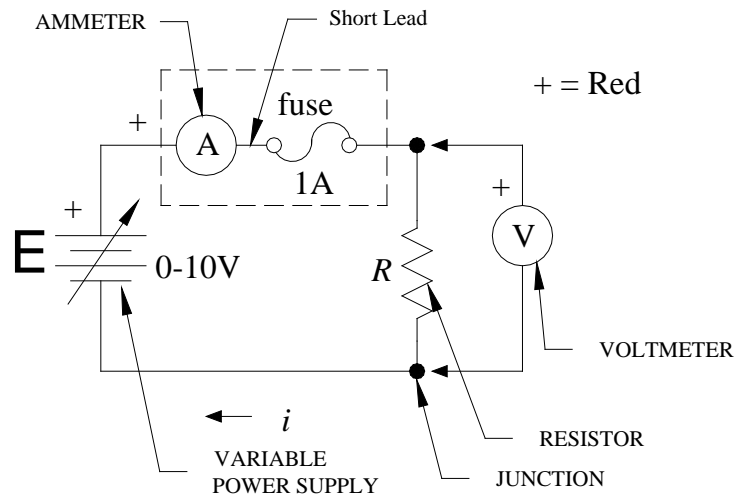

Figure 2 Schematic of the circuit used to measure resistance with symbols defined.
3) Figure 2 is a schematic diagram of the electrical circuit you will be measuring in this part of the lab. Each part of the circuit has a schematic symbol associated with it. Figure 2 has the symbols labeled. Study the figure and try to learn the names of the symbols. To make it easier to wire the circuit, first layout the components, power supply, ammeter, fuse, and resistor on the table just as they are drawn in the schematic. The voltmeter is an external test device so it should be the last element to be connected to the circuit. (This is different than an ammeter which is included in the circuit.) When wiring your circuit, start at the plus (+) side of the power supply and work your way around the circuit, adding wires to the components as indicated in the schematic. Think of the ammeter and fuse as one unit, as implied by the dashed lines in the figures. As you get more familiar with circuits, you won't need to layout the components in the exact geometrical positions shown in the schematic; but when you are first learning, this procedure helps you relate the physical object to its schematic symbol. Wire the circuit as shown in Figure 2, but **do not** connect the last lead to the minus (-) side of the power supply. Have your instructor check your circuit before you proceed.
5) Again wire a circuit as in FIGURE 2, but now use R_2 . (You can just swap the resistor without rewiring the circuit from scratch.)